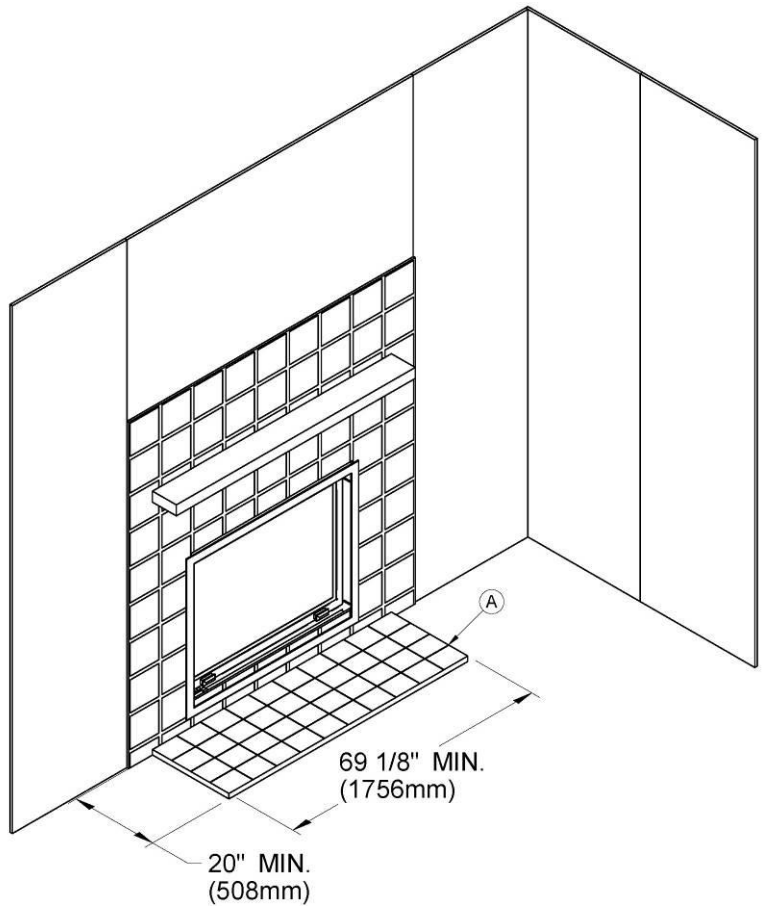
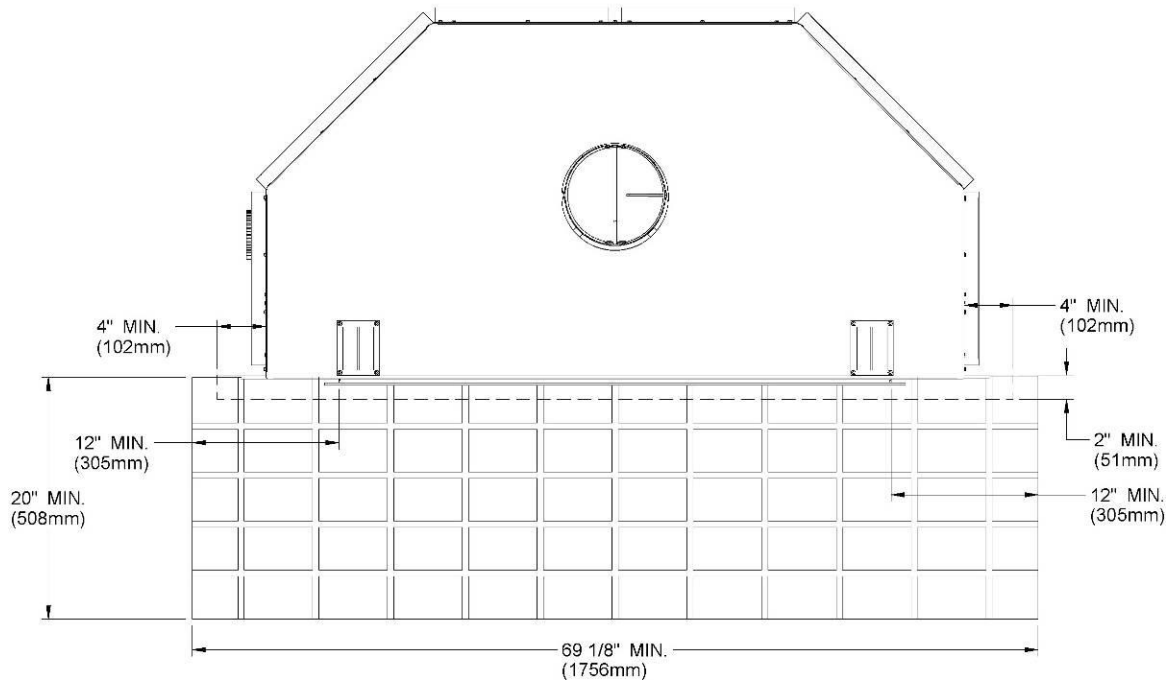

Figure 4
Figure 5
The hearth extension floor area (see (A), **Figure 4**) must extend at least 20" (50 cm) in front and at least 12" (30 cm) on each side of the door opening (see **Figures 5** and **6**). The joint between the hearth extension and the fireplace hearth needs to be made of non-combustible material such as sheet metal or sand-cement grout (not included) as shown on **Figure 6**.
WARNING: THE HEARTH EXTENSION IS TO BE INSTALLED ONLY AS ILLUSTRATED (see Figures 5 and 6).